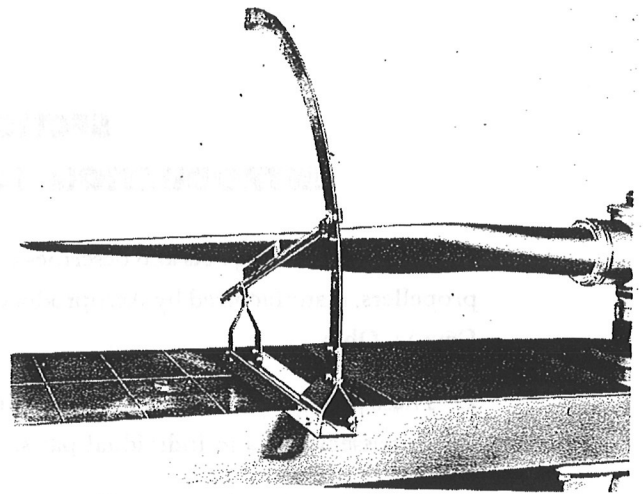

Figure 172—Checking Blade Angle
b. Turn the blades to their minimum angle, and using a blade angle protractor and blade template, measure the angle between the thrust face of the blades and the surface at the 42-inch station. (See figure 172.)